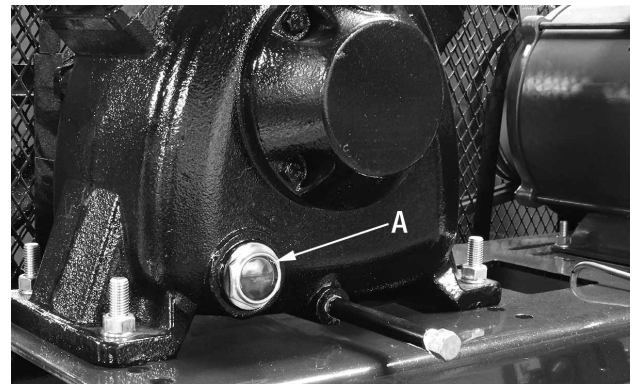

FIGURE 4
- 3) Make sure the oil level in the crankcase reaches the centre dot of the oil sight glass (A) Fig.4, refer to maintenance section for instructions on fill the crankcase with oil.